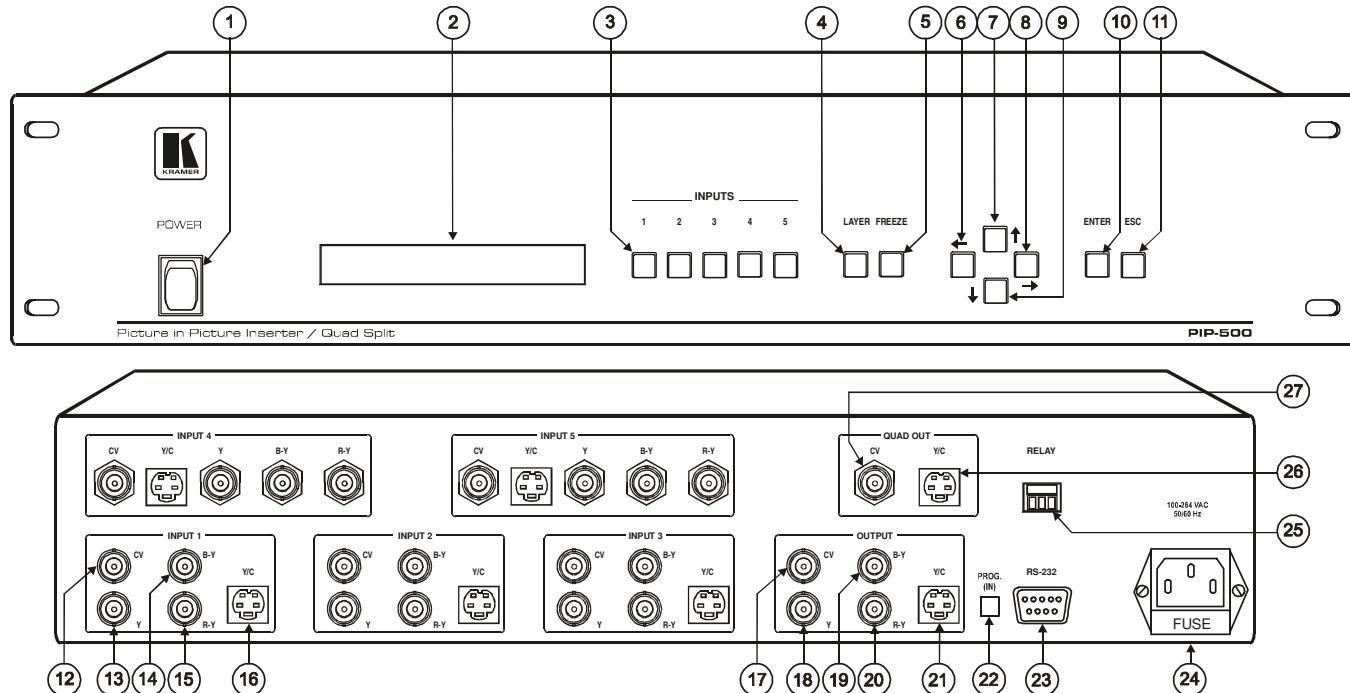

Figure 2: PIP-500 Picture in Picture Inserter / Quad Split
- Figure 2 illustrates the **PIP-500 Picture in Picture Inserter / Quad Split**